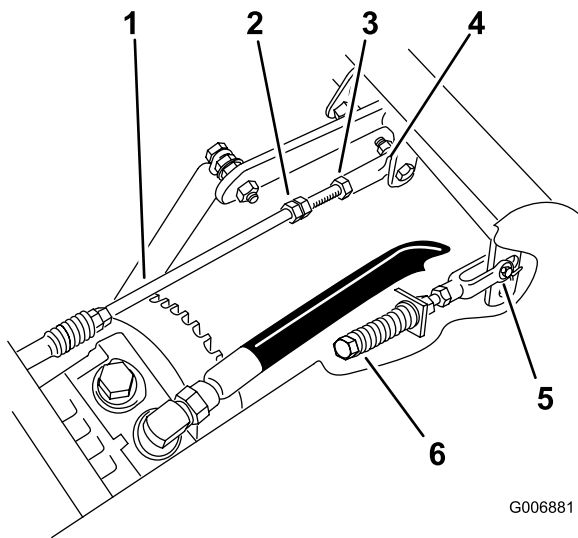

Figure 61
3. Adjust the pump rod length by rotating the double nuts on rod, in the appropriate direction, until the wheel is still or slightly creeping in reverse (Figure 61).
6. Tighten the locknut at the ball joint (Figure 61).